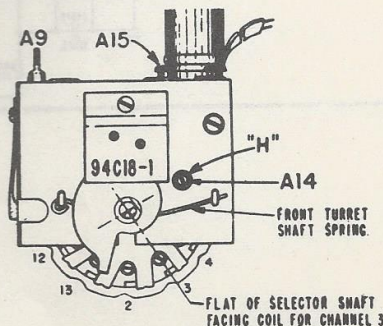

Figure 33. Front View of 94C18-1 Tuner.
Set Sharp Tuning control at half rotation by rotating it approximately 150° as shown in figure 33.
- When using a signal generator, follow steps (a), (b), (c), (d) under "Individual Channel Adjustments Using Signal Generator and VTVM", then adjust A15 (figure 33) for zero VTVM reading between a positive and a negative peak.
- When using a television signal, set the Channel Selector knob for a station and adjust controls for normal picture and sound. Set Sharp Tuning control at electrical center by rotating approximately 150° or half rotation as shown in figure 33. Note position of dielectric rotor. Then adjust A15 (figure 33) for best sound and clearly defined picture.